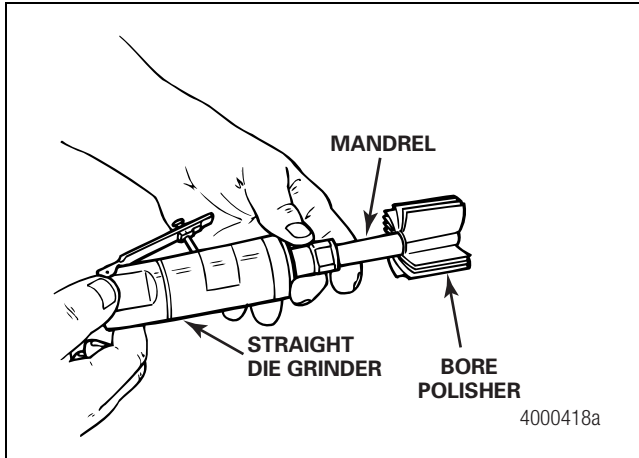

Figure 5
6. Choose the correct size bore polisher by matching the axle manufacturer and model to the bore polishing tools listed in the back of this publication. Figure 5.